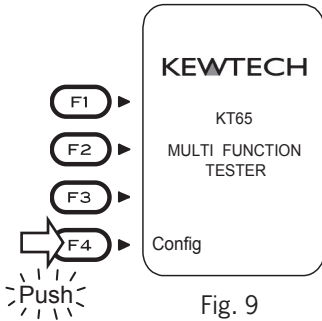

Fig. 9
1. Press the Config Button (F4) when powering on KT65. (Fig.9)